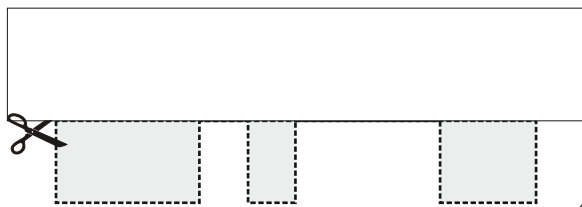
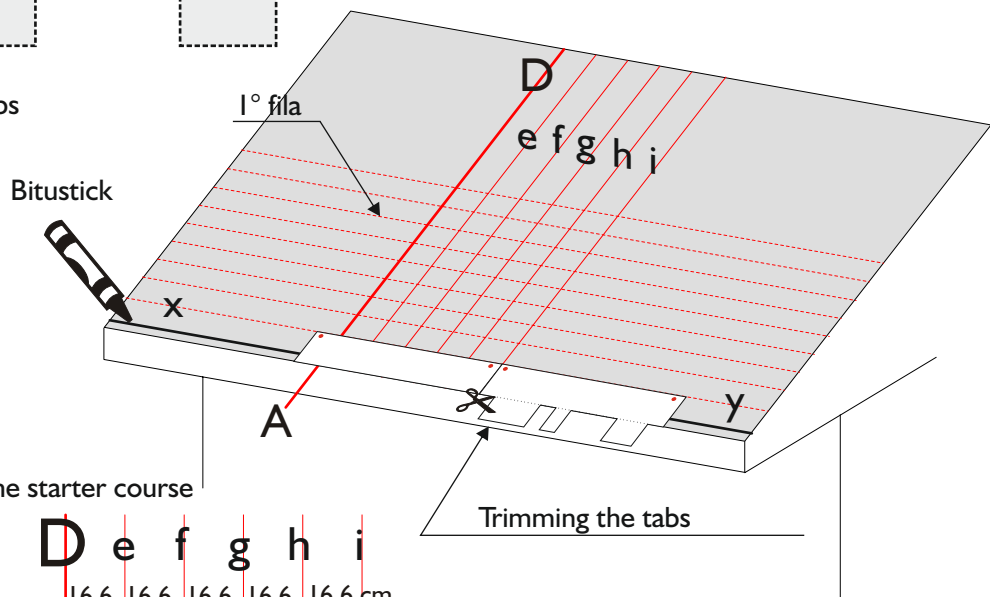

Fig. 2 Trimming the tabs
Fig. 3 - Installation of the starter course
- Apply a line of bituminous mastic “Bitustick” along the eaves (Fig. 3); trim the tabs from the bituminous shingle, remove the protection film to form the starter row (Fig. 2). For the correct installation of the starter course align the right side of the first trimmed shingle along the line “i” (see Pict. Nr. 3).